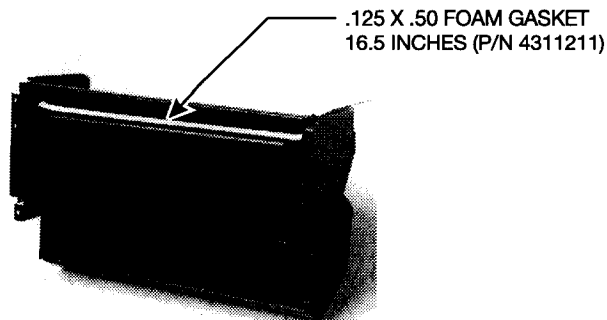

Figure 13
- b. Apply 16.5 inches of .125 x .50 foam gasket (4311211) to the top edge of the outer door. Position this gasket .25 inches back from the radius and extend it out over the end seals. **See Figure 13.**